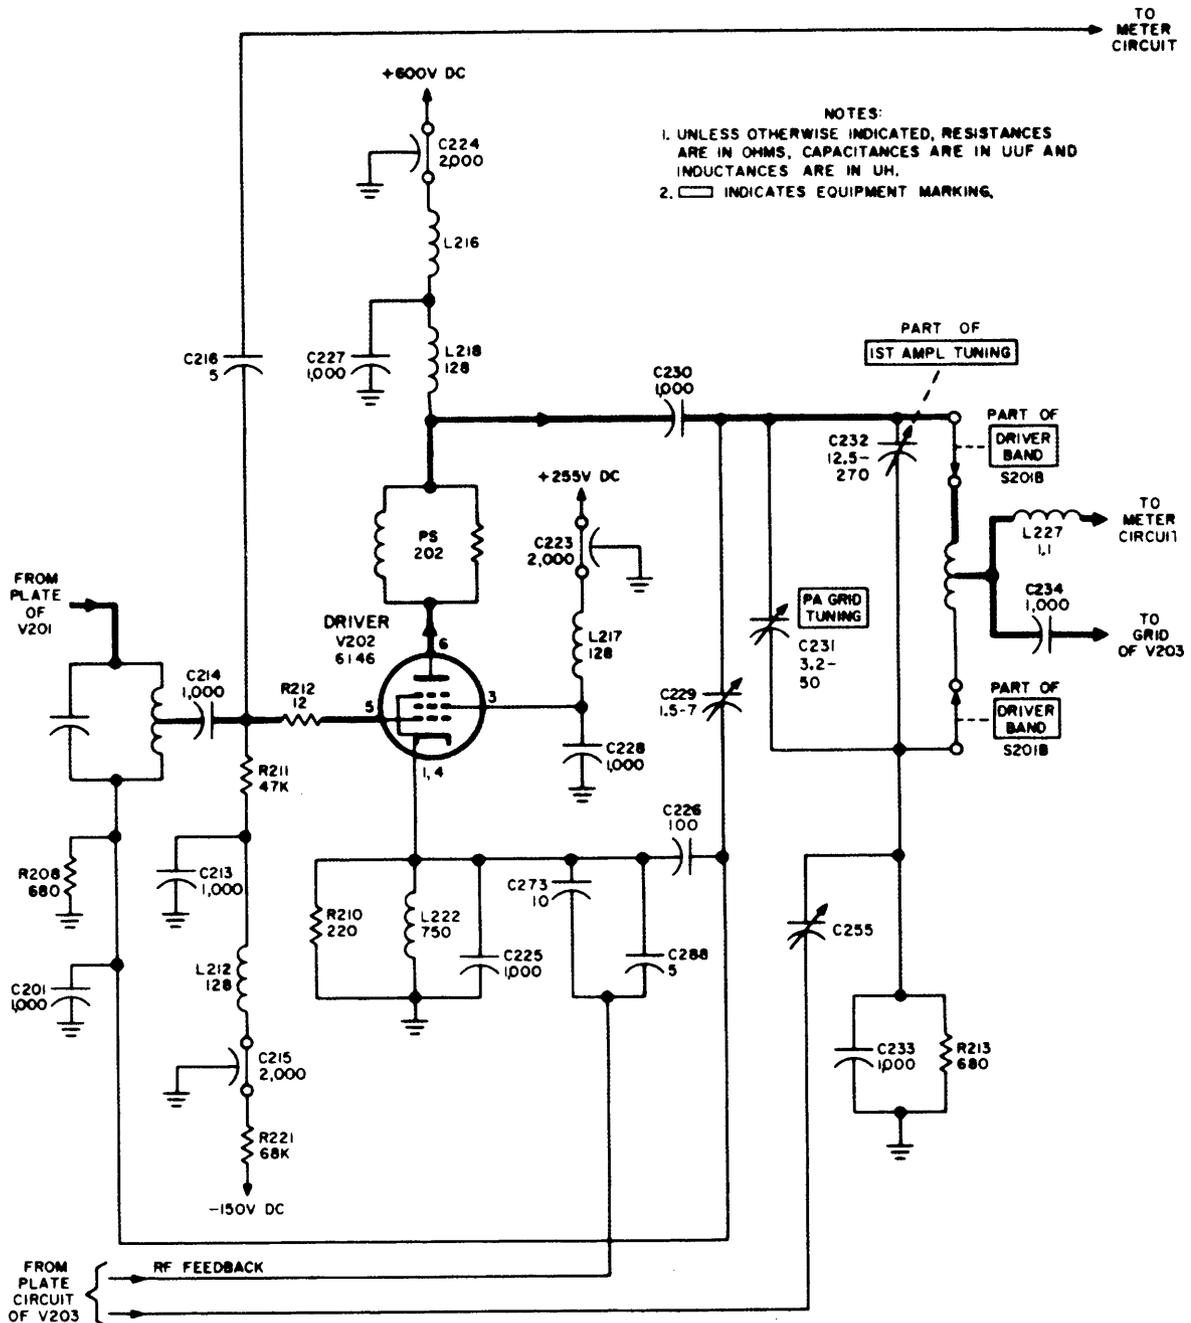

Figure 4-3. Simplified Schematic Diagram, V202 Driver, RFD-1A
c. DRIVER STAGE, V202 AND ASSOCIATED CIRCUITS (See figure 4-3).
(1) AMPLIFICATION AND TUNING. V201 tuned output is amplified at V202 (Class A) driver and proceeds, via a tuned circuit, to the control grid of V203 power amplifier. The tuned circuit consists of C231, C232 and a tapped inductor selected by S201 DRIVER BAND switch. Fine-tuning is accomplished by adjustment of C232, part of 1ST AMPL TUNING control.
(2) NEUTRALIZATION. Neutralizing voltage is developed from V202 plate voltage routed through neutralizing capacitor C229, developing voltage across C201 and R208 and applied to V202 grid via tap on tuned circuit inductance.
(3) METER SIGNALS. Samples representing V201 r-f plate voltage and V203 r-f grid voltage are routed through C216 and L227, respectively, to the meter circuit (paragraph 4-2e.).